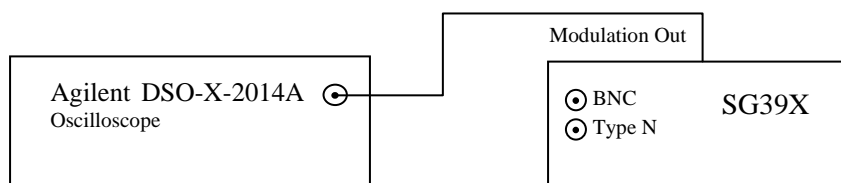

Figure 72: Setup for modulation output test.
This test verifies the operation of the modulation engine and the modulation output. It does not test to any specifications. This test requires the setup shown in Figure 72
1. Connect the equipment as shown in Figure 72.